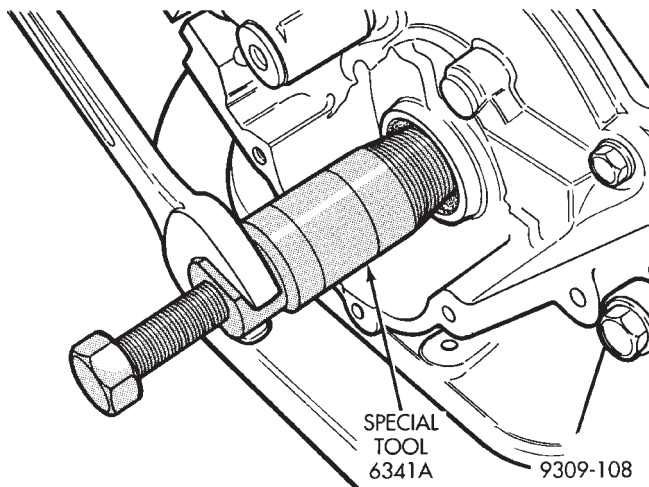

Fig. 78 Crankshaft Oil Seal with Special Tool 6341A—Removal
- (4) Remove crankshaft seal using Special Tool 6341A (Fig. 78).